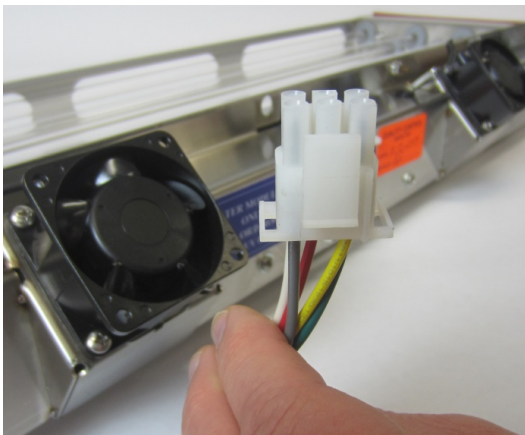

Figure 6-33-2
4. Disconnect the Lamp / Ballast Connector plug (Refer to Figure 6-33-2 and 6-33-3).